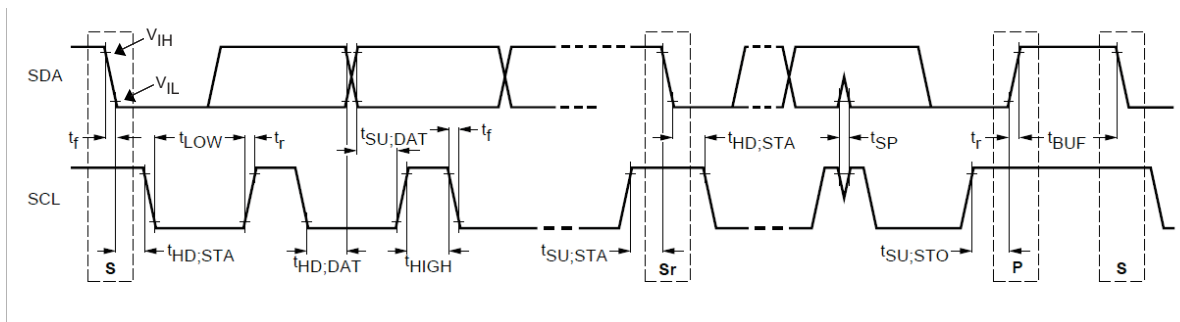

Figure 1. I2C Timing Definitions (reproduced from Phillips I2C spec Version 1.1)
- (1) Ensured by design. Not production tested.
(2) Refer to Figure 1 below for I2C Timing Definitions
(3) Cb = capacitance of bus line in pF